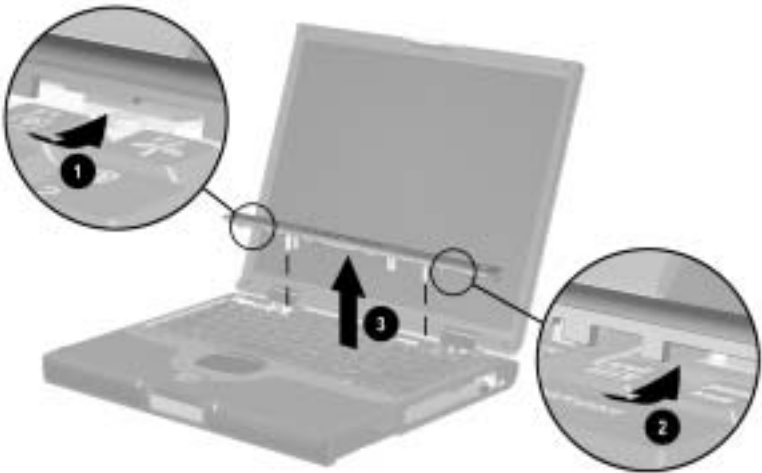

Figure 5-17. Removing the LED Cover
7. Insert a pointed tool into the notch in the LED cover **①** between the **F1** and **F2** keys and lift up (Figure 5-17).
9. Insert a pointed tool into the notch in the LED cover **②** between the **Pause** and **Scroll** keys and lift up.
10. Remove the LED cover **③**.